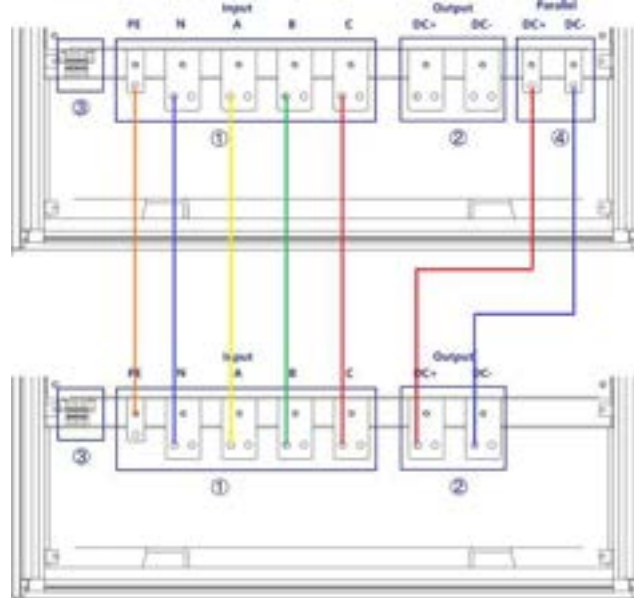

Figure 2-13 Parallel input and output cables connection
Step 4: As shown in Figure 2-13, connect the input and output parallel cables of the two equipments.